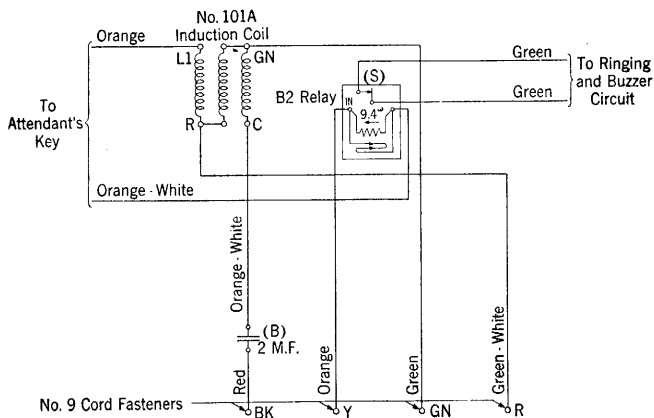

Fig. 3—Wiring of Telephone Circuit for Anti-Sidetone Connections 506 Type P.B.X.'s
3.24 Connect the wiring to the induction coil, relay, condenser and cord fasteners in accordance with Fig. 3.